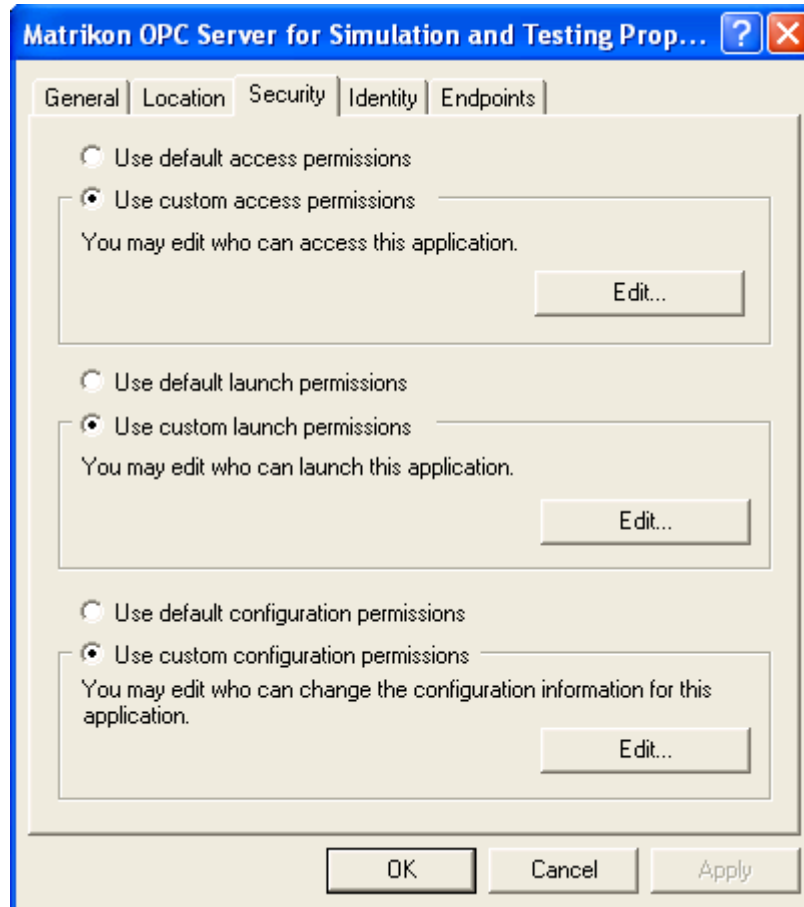

Figure 36 - Distributed COM Configuration Security Tab
5. The **Distributed COM Configuration Security** tab (Figure 36) appears.